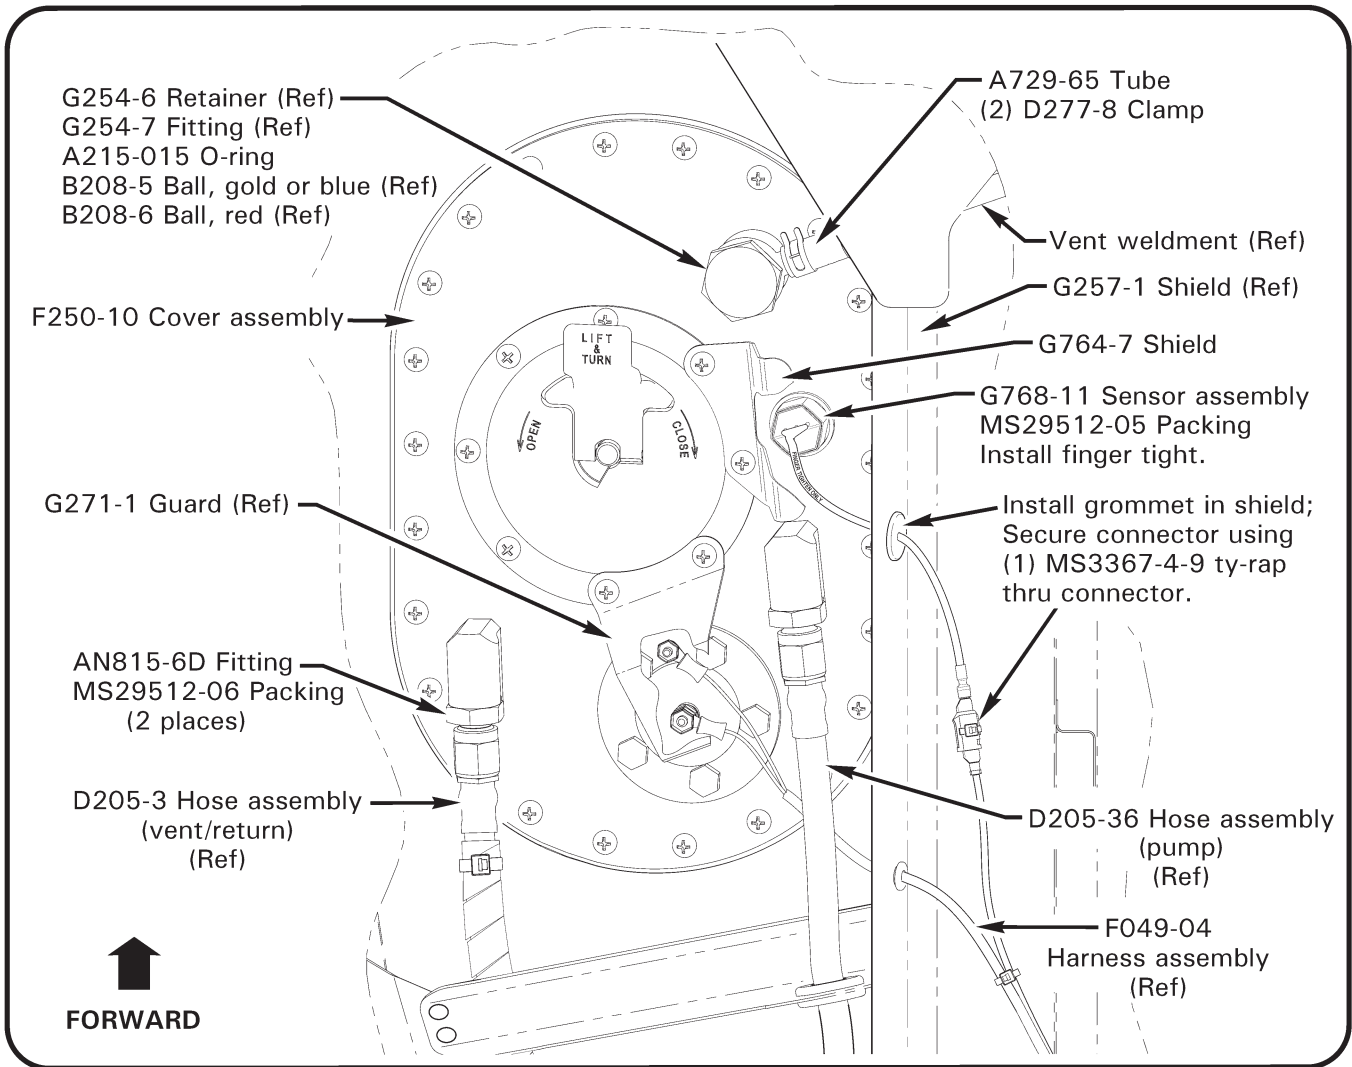

FIGURE 1
6. Refer to Figure 1 and IPC Figure 28-1. Place new F250-10 cover assembly on clean work surface. Using lint-free wipe, clean G254-6 retainer, G254-7 fitting, and B208 balls and verify no nicks, scratches, gouges, dents, cracks or corrosion.
7. Install G254-7 fitting on G254-6 retainer. Install new A215-015 o-ring in retainer groove. Carefully install B208-6 (red, solid ball), followed by B208-5 (gold or blue, hollow) ball, then install combined retainer & fitting finger-tight. Install fuel quantity sender and gasket on cover using (5) B289-4 bolts, securing hand-tight.
8. Open fuel door and remove paper from bladder opening. Lubricate (new) MS29513-270 packing using A257-6 grease and install packing in recess surrounding port opening. Install new F250-10 cover assembly using (24) retained MS27039C1-06 screws, applying A257-9 anti-seize to threads as necessary. Install F689-1 fuel cap.
12. Refer to Figure 1. Install new MS29512-06 packings on AN815-6D fittings and install fittings in F250-10 cover assembly. Special torque fittings to 200 in.-lb. Remove plugs from D205-36 hoses and connect hoses to fittings. Special torque hose B-nuts per MM § 20-33 & torque stripe per MM Figure 5-1.